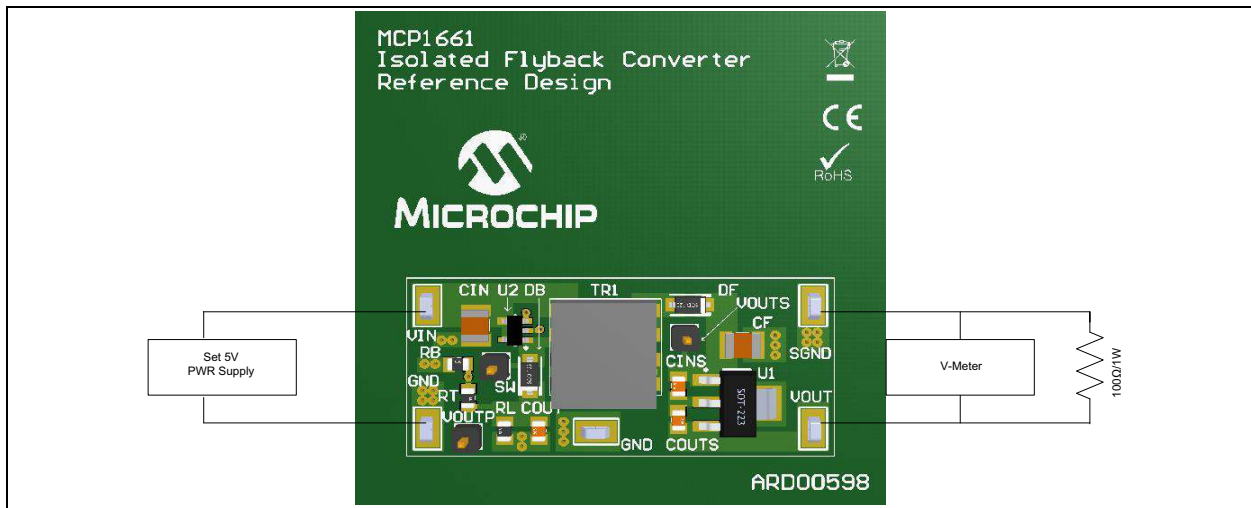

FIGURE 2-2: MCP1661 Isolated Flyback Converter Reference Design.
3. Connect a voltmeter and a 100 Ω /1W resistor between V_{OUT} and SGND connectors, as shown in Figure 2-2. Check to be sure the voltmeter indicates approximately 5V.